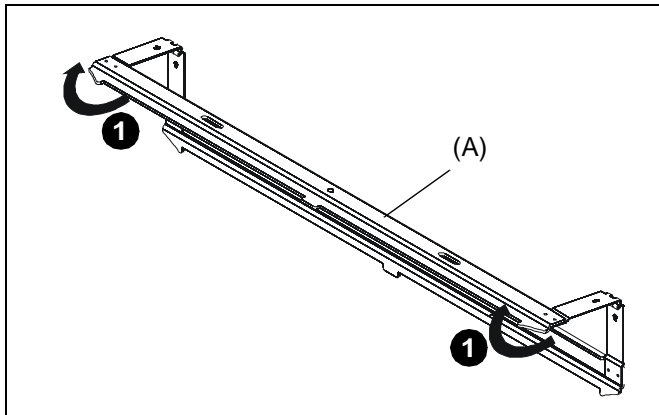

Figure 1
1. Unfold wall plate (A) to prepare it for mounting to wall. (See Figure 1)